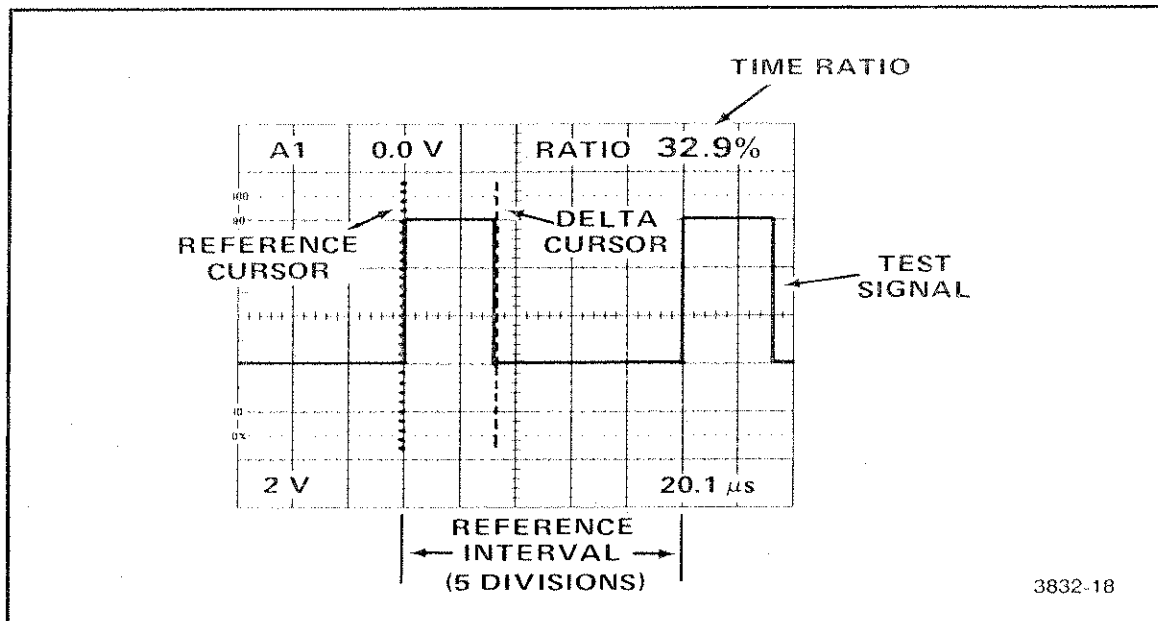

Figure 3-6. Time ratio (duty factor).
2. Activate Δt and align the two vertical cursors with the beginning and end of the high portion of the pulse. Measure the low portion of the pulse if you want to measure the portion of the cycle that is low (see Figure 3-6).